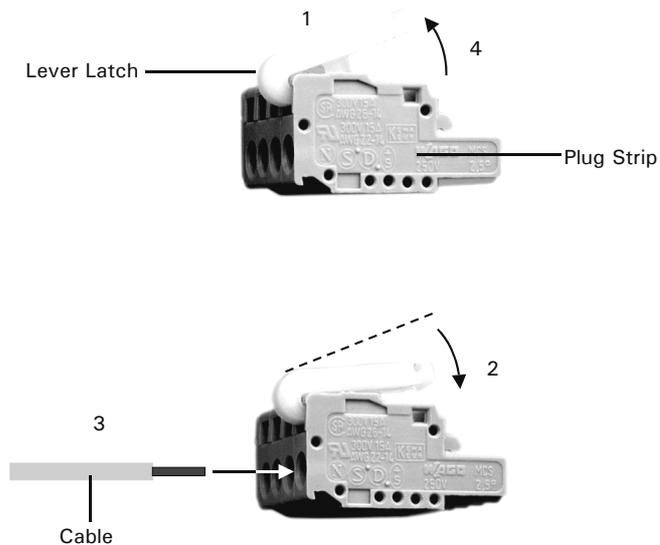

FIGURE 2-6 Connector for Terminal Strips
- a) Insert the rounded end of the lever latch into the square opening of the selected connector of the plug strip (item 1, FIGURE 2-6).
- b) Press the lever latch down as indicated by the arrow so that it is flush with the top of the plug strip (item 2, FIGURE 2-6).
- c) Insert the uninsulated end of the wire into the opening under the catch (item 3, FIGURE 2-6).
- d) Release the catch and remove the lever latch from the plug (item 4, FIGURE 2-6).